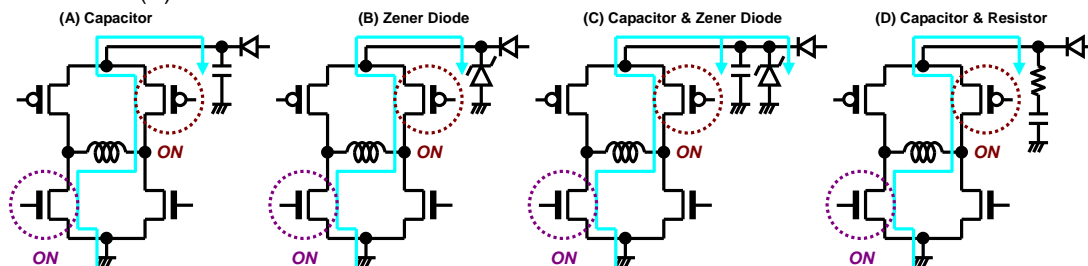

Figure 29. Measure Against V_{CC} Voltage Rise
When the absolute maximum rated voltage may be exceeded due to the voltage rise by the back electromotive force, place a (A) capacitor or (B) Zener diode between the VCC pin and the GND pin for regenerative current path as shown in Figure 29. If further measures are necessary, use measures of (A) and (B) together like as (C). The capacitor and the resistor can be used to have better voltage surge protection like as (D).